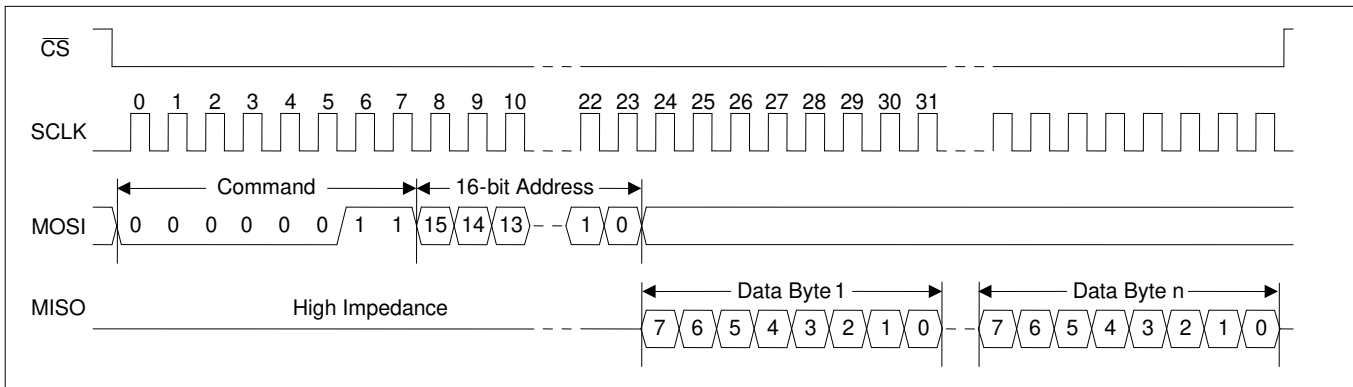

Figure 7 - SPI Read Transaction Functional Timing
**Read Transactions.** The device registers are accessible when **EESEL=0**. On a ZL30245 the internal EEPROM memory is accessible when **EESEL=1**. On a ZL30244 **EESEL** must be set to 0. After driving CSN low, the bus master transmits the read command followed by the 16-bit address. The device then responds with the requested data byte on MISO, increments its address counter, and prefetches the next data byte. If the bus master continues to demand data, the device continues to provide the data on MISO, increment its address counter, and prefetch the following byte. The read transaction is completed when the bus master drives CSN high. See Figure 7.
**Read Transactions.** After driving CSN low, the device transmits the read command followed by the 16-bit register address. The external EEPROM then responds with the requested data byte on MISO, increments its address counter, and prefetches the next data byte. If the device continues to demand data, the EEPROM continues to provide the data on MISO, increment its address counter, and prefetch the following byte. The read transaction is completed when the device drives CSN high. See Figure 7.